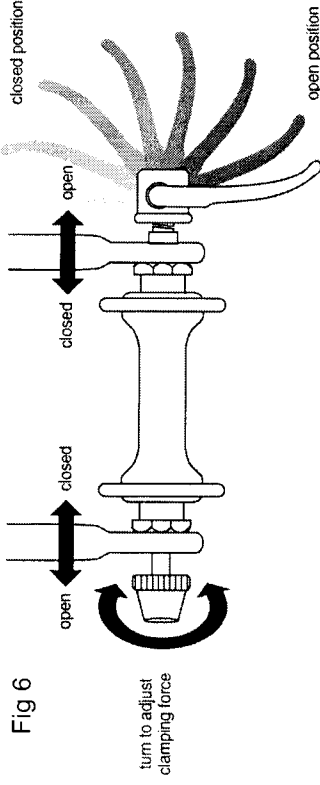

Fig 6
3. Holding the quick-release lever in the OPEN position with your right hand, tighten the tension adjusting nut with your left hand until it is finger tight against the fork dropout (Fig. 6).
4. While pushing the wheel firmly to the top of the slots in the fork dropouts, and at the same time centering the wheel rim in the fork, move the quick-release lever upwards and swing it into the CLOSED position (Fig. 6 & 7a). The lever should now be parallel to the fork blade and curved toward the wheel. To apply enough clamping force, you should have to wrap your fingers around the fork blade for leverage, and the lever should leave a clear imprint in the palm of your hand.
3. Move the quick-release lever to the OPEN position (see Fig. 6). The lever should be on the side of the wheel opposite the derailleur and freewheel sprockets.
Some bikes are equipped with a quick-release seat post binder. The seatpost quick-release binder works exactly like the wheel quick-release (Section IV.A.1.) While a quick release looks like a long bolt with a lever on one end and a nut on the other, the quick release uses a cam action to firmly clamp the seat post (see Fig. 6).